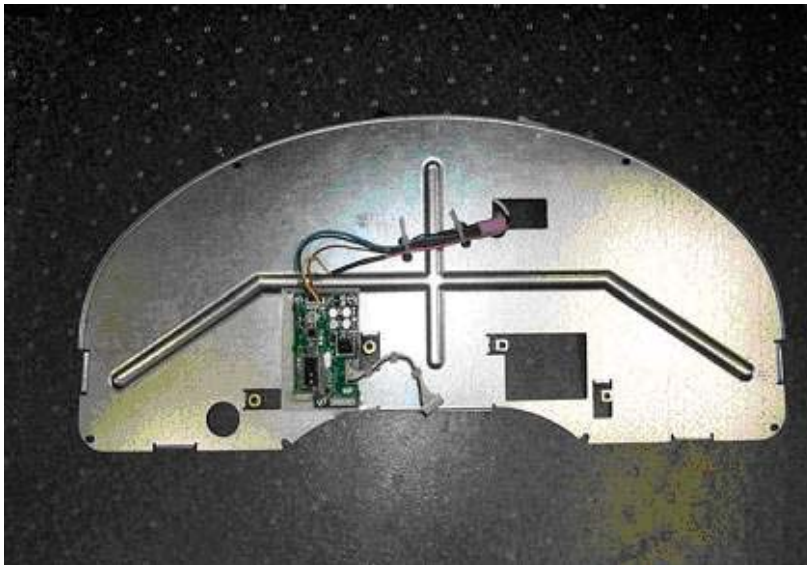

Figure 6 New Rear Cover with Interceptor Circuit
7. Remove new rear cover with interceptor circuit from Kit 8000849R91 (Figure 6).